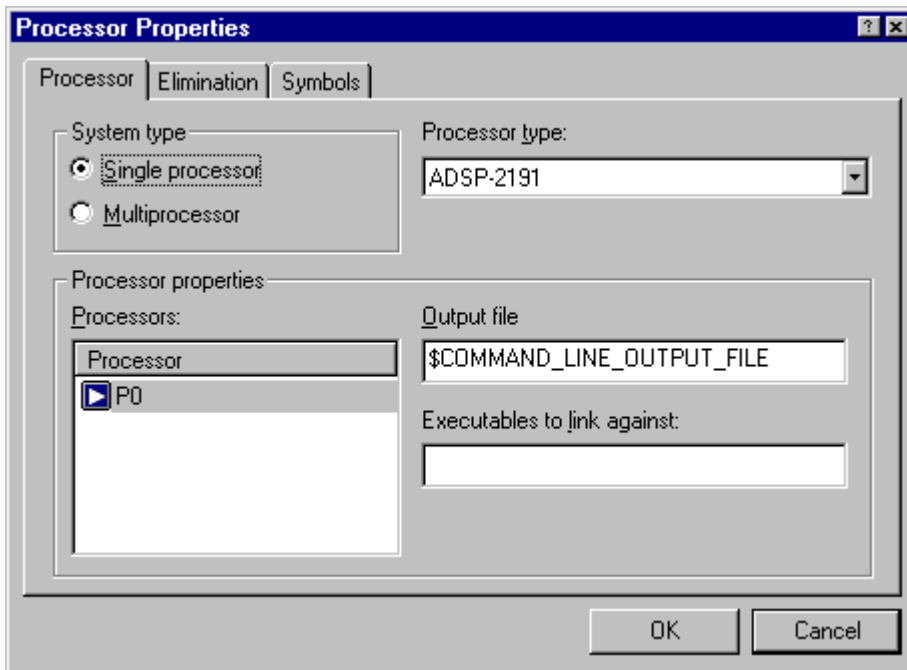

Figure 4-42. Processor Page of the Processor Properties Dialog Box
2. Click the **Processor** tab (Figure 4-42).